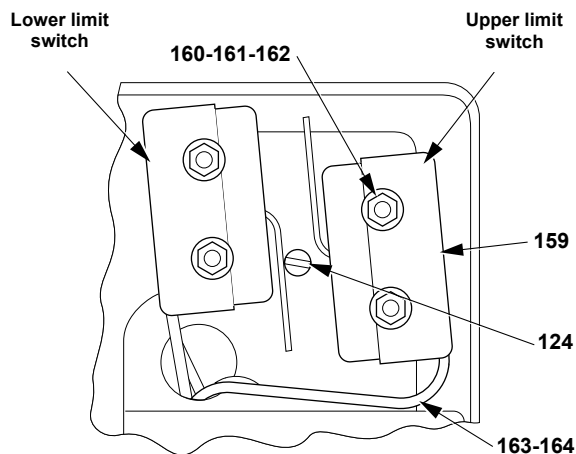

Figure 13 - Limit switch installation
3.4 LIMIT SWITCHES (Figure 13)